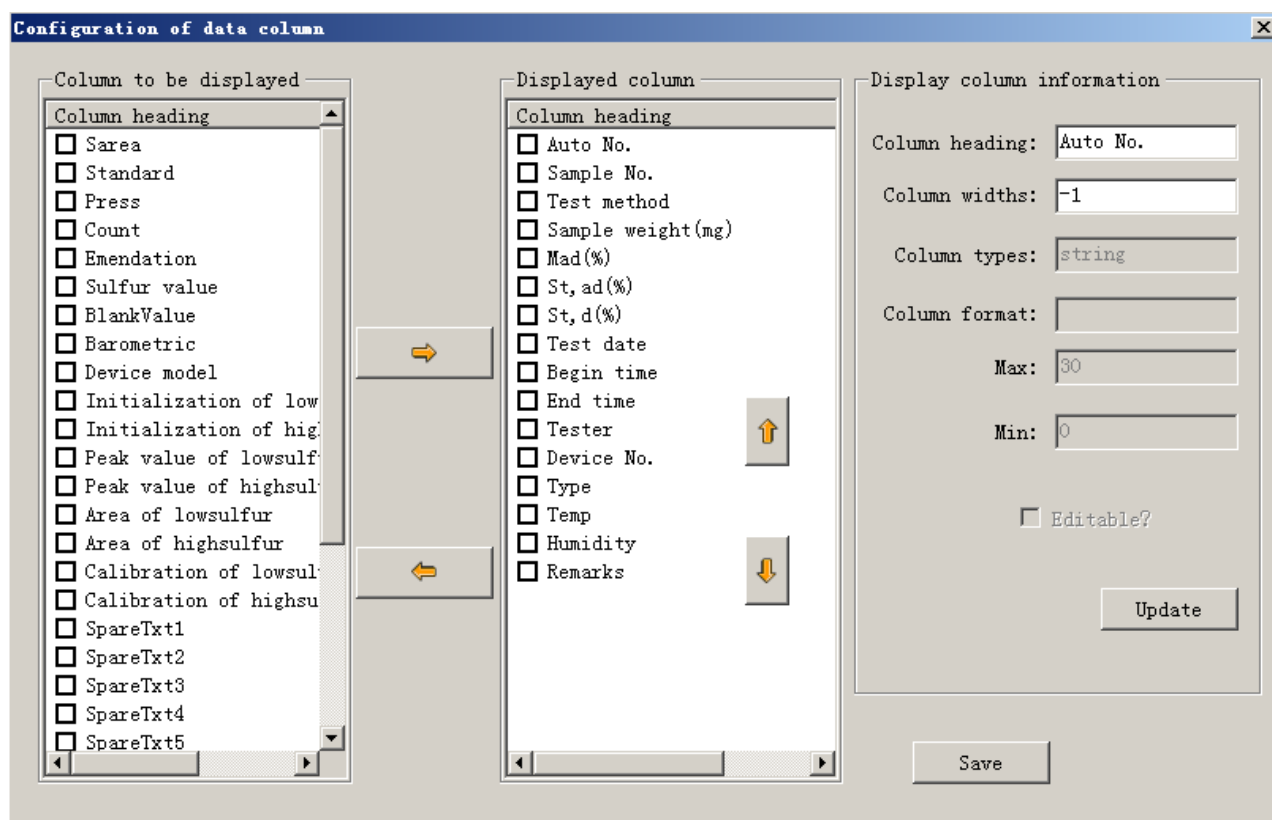

Fig.4-2-2
- Data column configuration: Click on the menu, the window as shown in fig 4-2-2 will pop up, then can process data column configuration in the window.